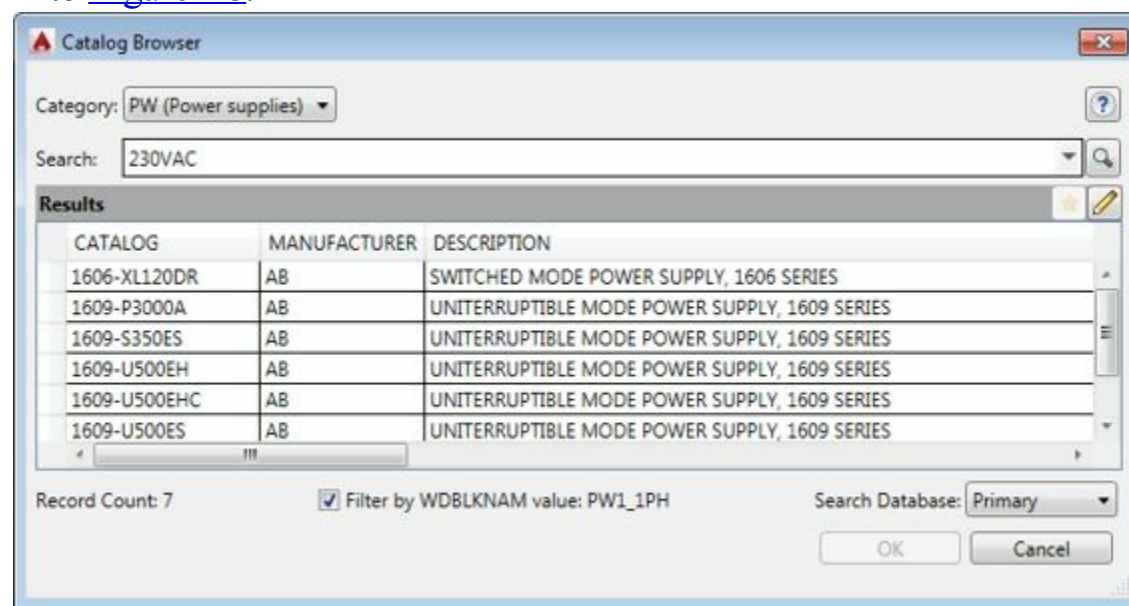

Figure-18. Power sources
- Click on the **Search** button next to **Search** field. The list of power sources will be displayed; refer to Figure-18.